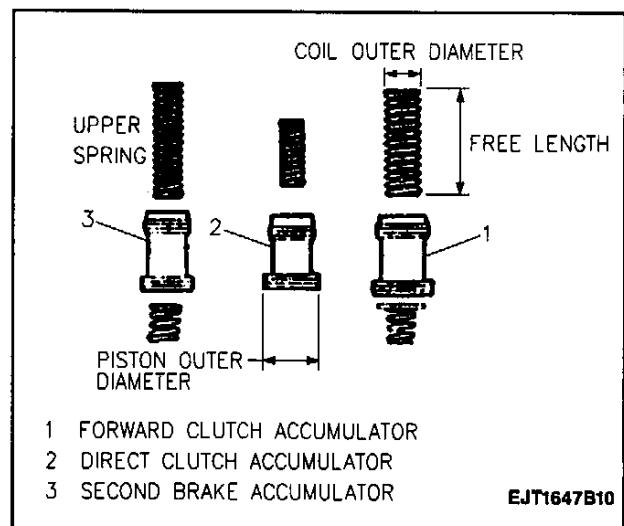

Figure 114—Accumulator Pistons and Springs (03-72LE, 4-Speed)
3. Apply to automatic transmission fluid to new O-rings, springs and install them to accumulator pistons (Figure 114) and Accumulator Piston and Spring Chart.